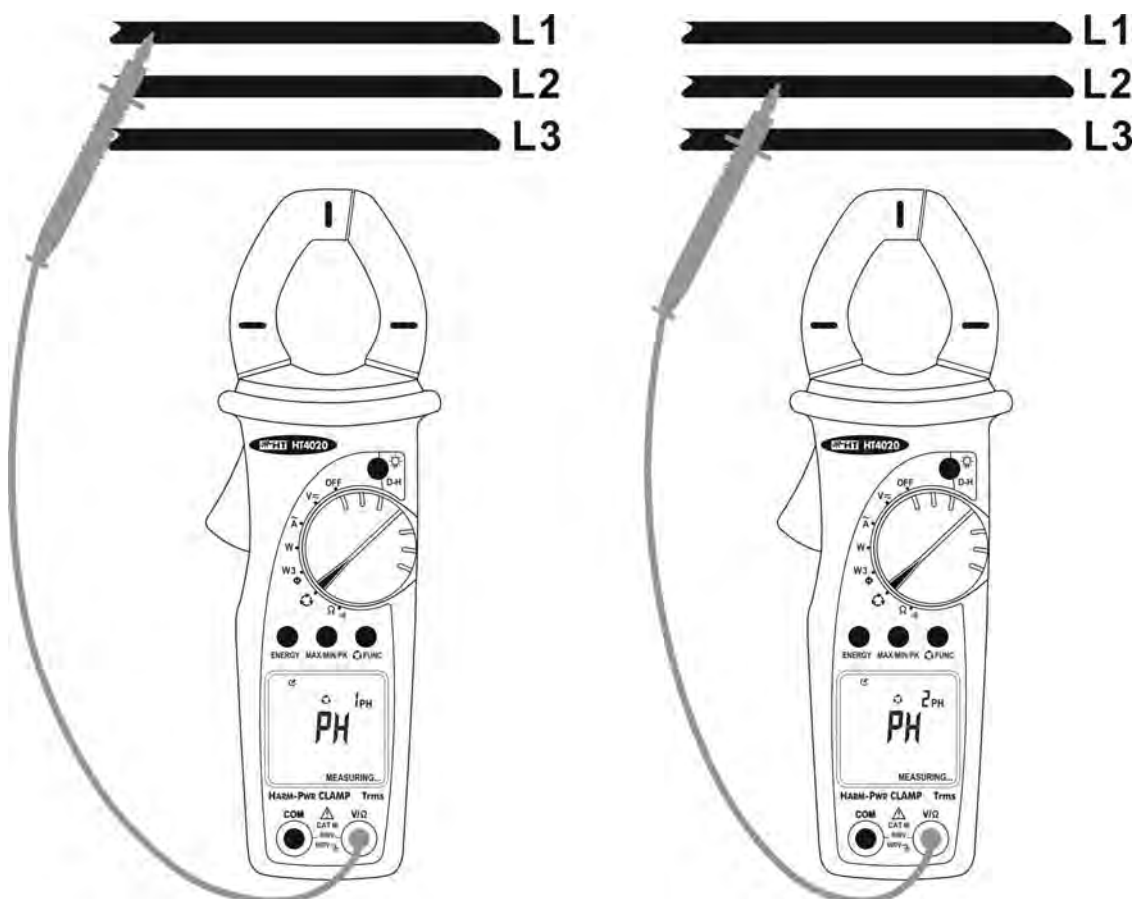

Fig. 13: Use of instrument for phase sequence indication with 1 wire
3. Connect the red terminal to the L1 phase conductor (see Fig. 13 – left part). If necessary use the rubber test lead holster and insert the red test lead
8. Connect the test lead to the L2 phase conductor (see Fig. 13 – right part)